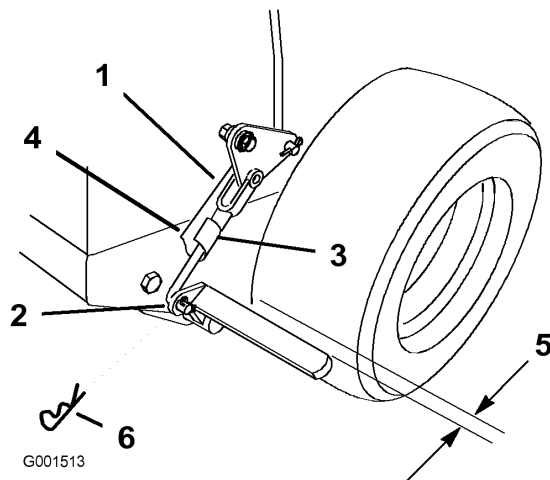

Figure 46
3. Remove the spring hair pin from the lower brake link (Figure 46).
4. Rotate the lower brake link yoke clockwise into the yoke to tighten the parking brake; rotate the brake link yoke counterclockwise out of the yoke out to loosen the parking brake (Figure 46).
Note: There should be approximately 1/4 inch clearance between the tire and the flat bar when the parking brake is in the released position (Figure 46).
5. Secure the lower link to the lower brake lever with the hair pin cotter and the clevis pin (Figure 46).